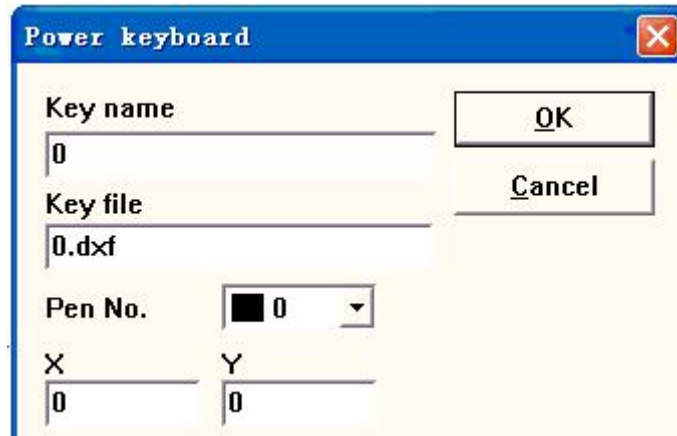

Figure 8-23
3. Click “Add” then the dialog box popup shown as Figure8-23: